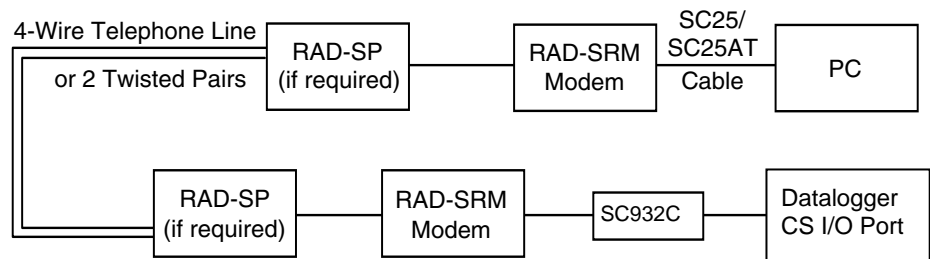

Figure 2 Block Diagram of CS-SRM Installation
The CS-SRM can operate without an external supply, the small amount of current required being drawn from the RS232 circuits. A switch-selectable DCE/DTE option allows the RAD-SRM modem to operate as a DTE-type device for connection to another piece of DCE equipment without the need for a cross-over cable (see Figure 2).
3. Connect the four conductors to the screw terminal block, with the transmit pair connected to the terminals labelled 'XMT' and the receive pair to the terminals labelled 'RCV'. (See Figure 2; note that the wires labelled A and B are one twisted pair of the cable, and the wires labelled C and D are the other twisted pair.) A ground terminal is provided to connect the cable shield (if present) at one end of the link only.
4. Transients induced on the communication line may damage electronic equipment connected at either end of the line. To decrease the chances of damage, install earthed surge protectors as shown in Figure 2. Suitable protectors are supplied in the CS-SRM package (model RAD-SP). The wiring is straight through such that pin to pin continuity exists between the two modems.